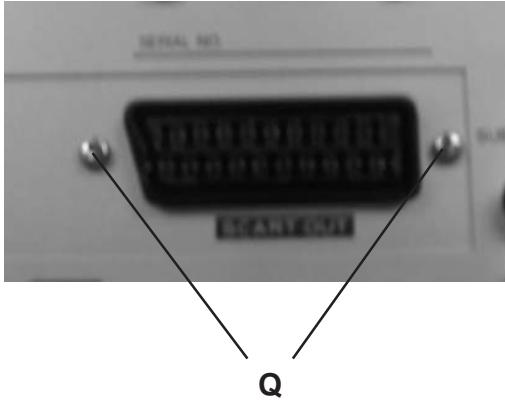

Figure 14
- 1) Loosen 2 screws " Q" as shown in Figure 14.